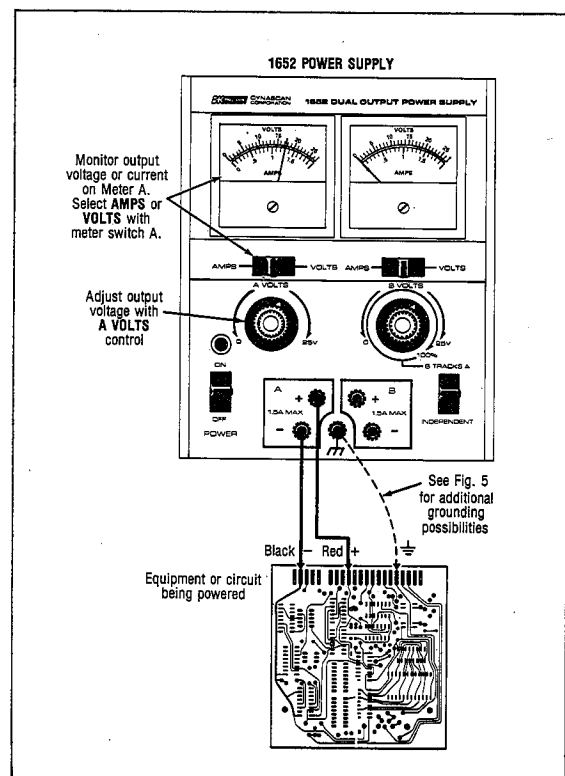

Fig. 4. Typical Use of A Supply.
(Refer to Fig. 4 and 5)
2. Connect the positive and negative polarity of the circuit being powered to the (+) and (-) terminals of the A supply, respectively, as shown in Fig. 4.